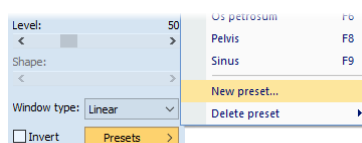

Figure 160 – Creating a new window/level preset
2. Click the **Presets** button in the **Window/level** tool, and select the **New preset...** item (see Figure 160) in the displayed drop-down list.